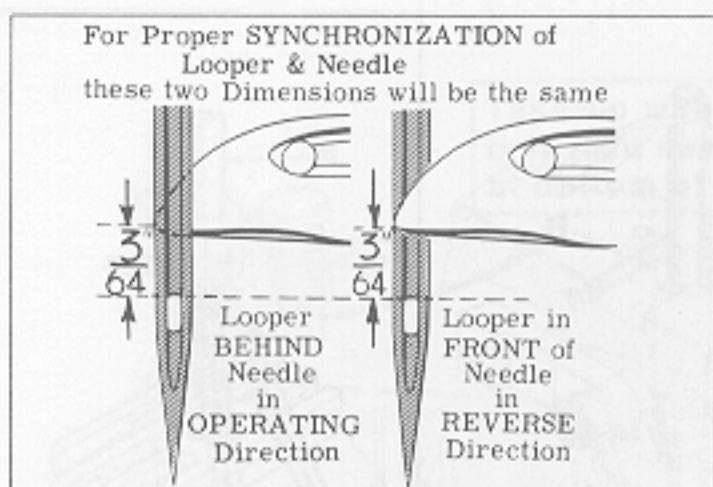

Fig. 5
NOTE: The 3/64 inch (1.2mm) dimension shown in Fig. 5 is for final setting of needle bar height.
Turn handwheel in operating direction until point of looper is flush with the left side of right needle. Final setting is 3/64 inch (1.2mm) between top of needle's eye and bottom surface of looper (See Fig. 5). If adjustment is required, loosen screw (C, Fig. 3) move needle bar CAREFULLY up or down, not to disturb alignment of same. Retighten screw (C) and check to ensure that needles center in needle holes of throat plate.